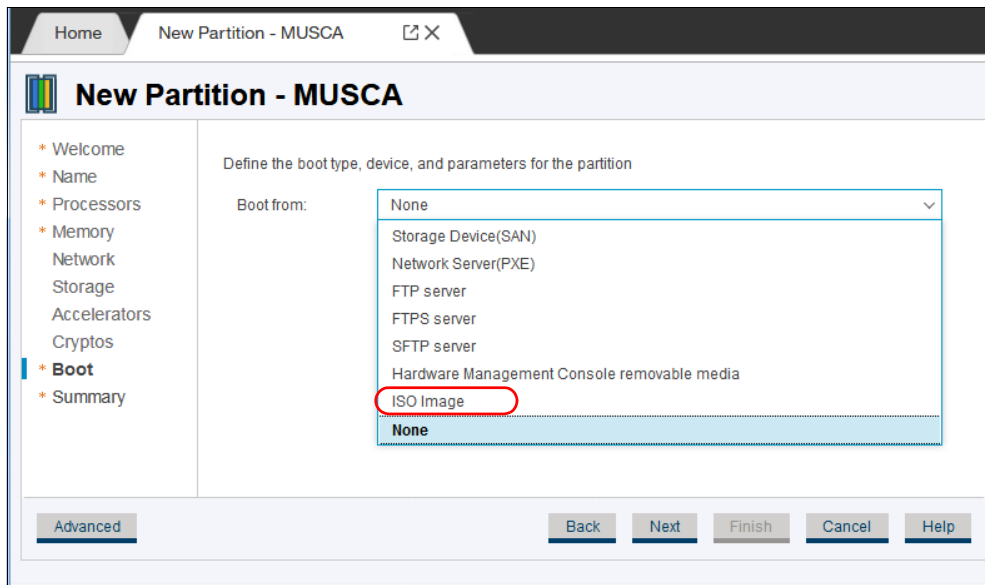

Figure 16-39 Selecting Linux partition boot options
9. If wanted, we select Accelerators and Cryptos. However, these components can be added later. We chose to skip Accelerators and Cryptos configuration and proceed to selecting Boot options, as shown in Figure 16-39.
7. Selecting the boot options (similar to what is shown in Figure 16-39 on page 413).